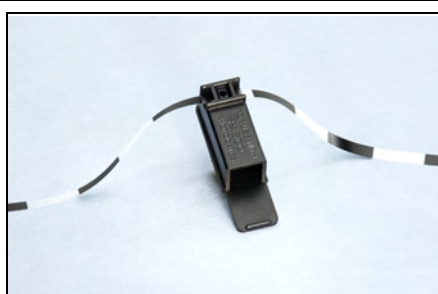

Figure 2a: Threading the Photogate Tape through the Photogate Bracket
4. Thread the Photogate Tape through the Photogate Tape Bracket (Figure 2a).